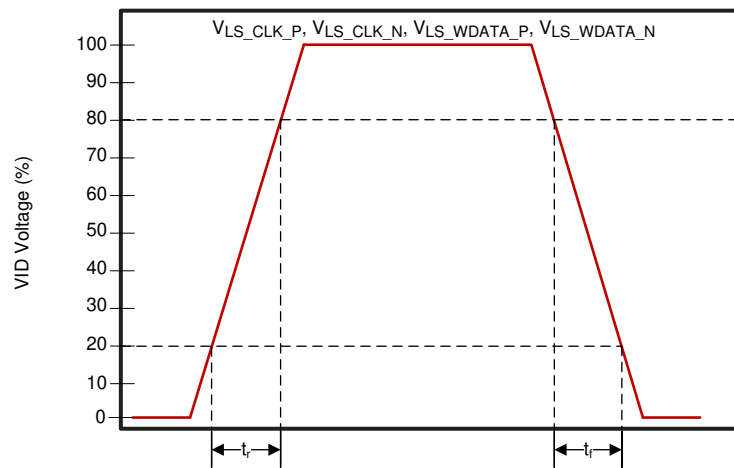

Figure 5-6. LSIF Rise, Fall Time Slew
- (2) See Figure 5-6 for rise time and fall time for LSIF.